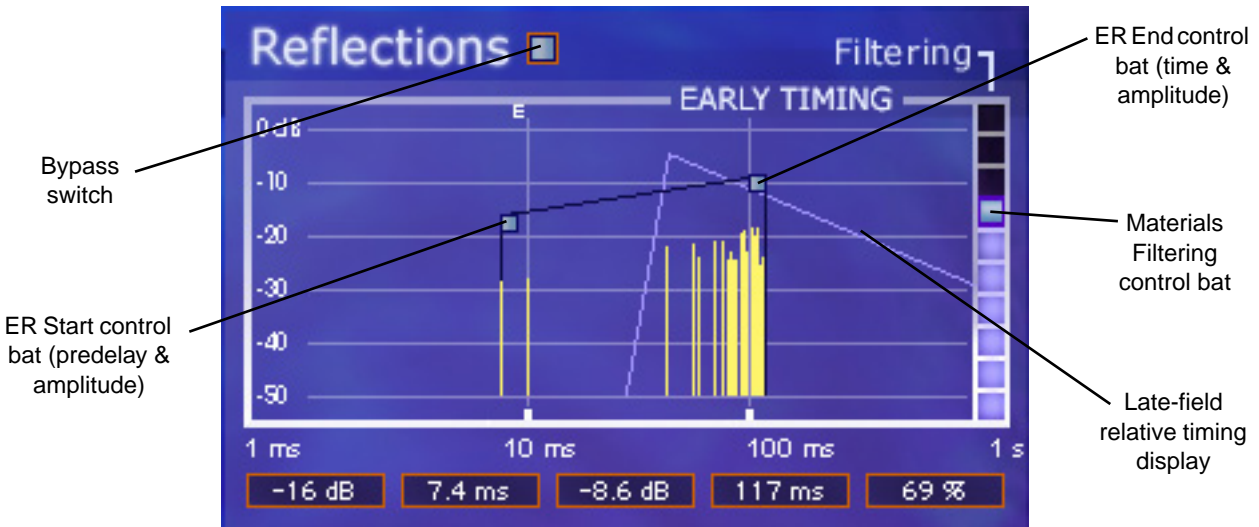

Figure 74. DreamVerb Reflections panel
The resulting early reflection pattern is displayed at the top of the Reflections panel (Figure 74 on page 154), where each reflection is represented by a yellow vertical line with a height indicating its arrival energy, and a location indicating its arrival time.
Note: The parameters in the Materials panel always effect the late-field reverberations. However, the materials parameters effect the early reflections ONLY if the “Filtering” parameter in the Reflections panel (Figure 74 on page 154) is set to a non-zero value.
The Reflections panel (Figure 74 on page 154) offers control over the timing and relative energies of the reverb early reflections (ER). These parameters effect the reverb's perceived clarity and intimacy. Each early reflection is visually represented by a yellow vertical line with a height indicating its arrival energy and a location indicating its arrival time.